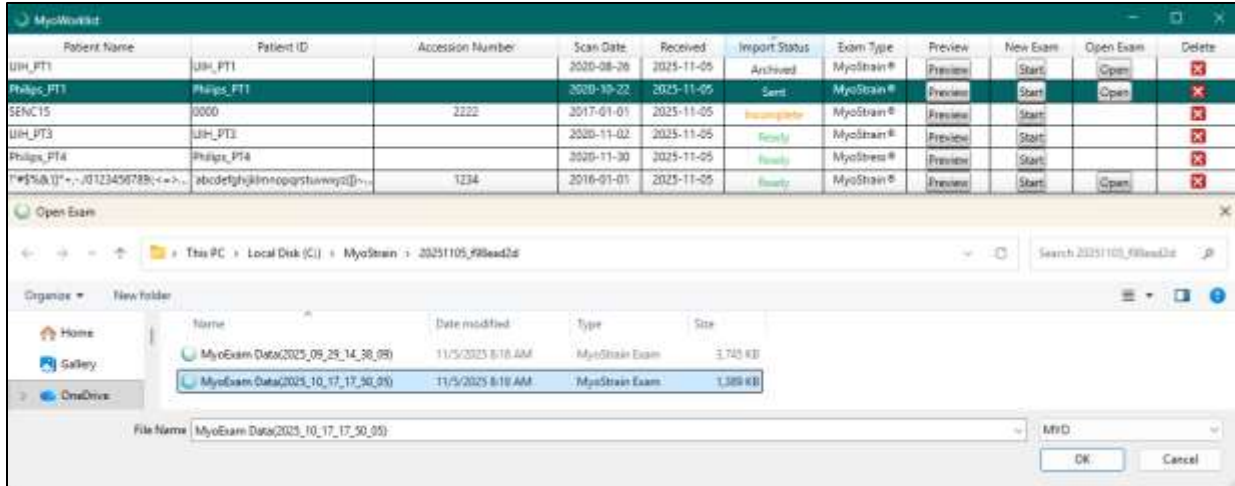

Figure 10-13: Opening a previously analyzed exam archived on PACS and sent for review
- J. **Open Exam**- If a dataset sent to the workstation has already been analyzed with MyoStrain and the Exam File was uploaded to PACS, MyoStrain can open that previously analyzed exam. Clicking this will open the folder containing the SENC images and any exam files associated with it (Figure 10-13)